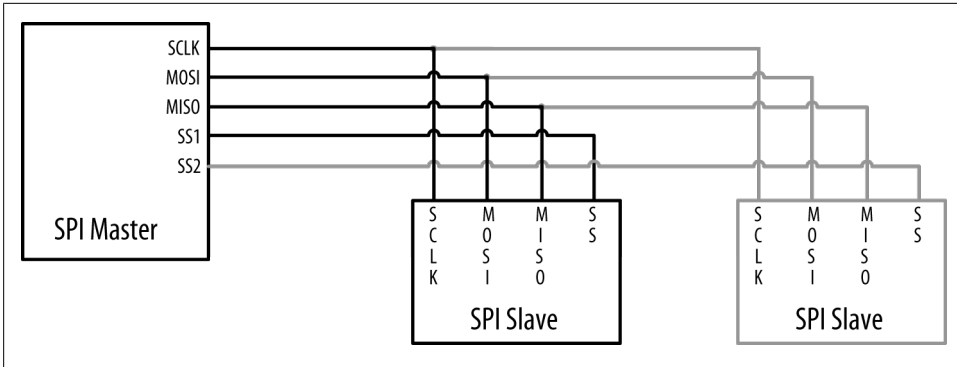

Figure 13-4. Signal connections for SPI master and slaves
Recent Arduino releases (from release 0019) include a library that allows communication with SPI devices. SPI has separate input (labeled “MOSI”) and output (labeled “MISO”) lines and a clock line. These three lines are connected to the respective lines on one or more slaves. Slaves are identified by signaling with the Slave Select (SS) line. Figure 13-4 shows the SPI connections.